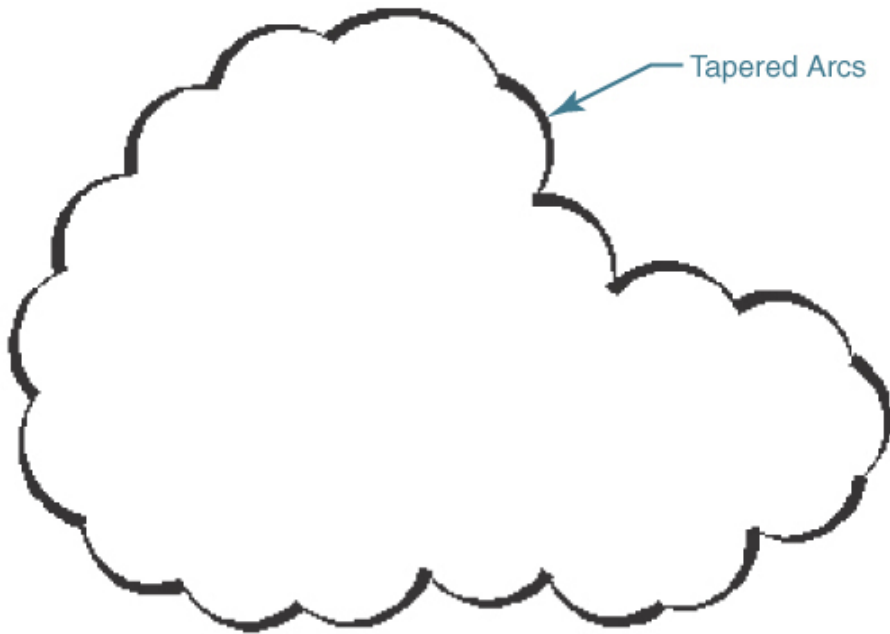

Figure 9-35
The **Style** option allows you to switch between the Normal style and the Calligraphy style. Figure 9-35 shows a revision cloud drawn using the Calligraphy style.
- 2 Create a **Freehand** type revision cloud using the Calligraphy style similar to the one shown in Figure 9-35 using the **REVCLLOUD** command and the **Style** option.